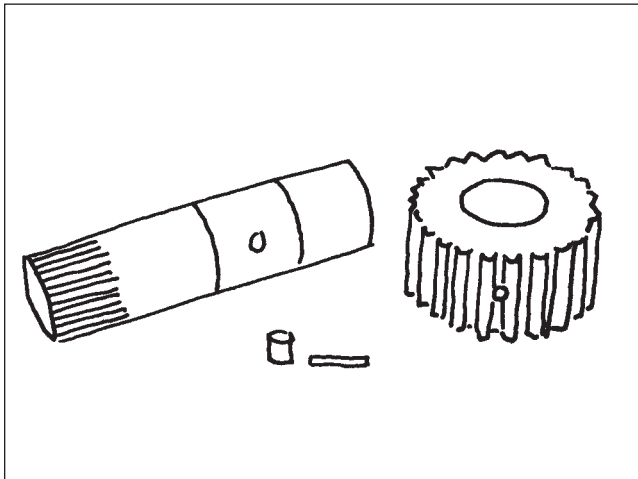

Figure 112
2. To reassemble the pinion gear to the output shaft, align the timing arrows on the output shaft to the arrow on the pinion gear. Press the gear on to the shaft splines until the locating pin can be driven through the gear and into the locating hole in the shaft. Install the roll pin through the gear (Figure 112).